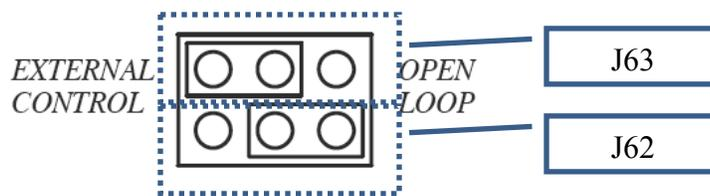

Figure 6.4: Control selection for Voltage-Mode Control plug-in board
- Set the control selection jumpers J62 and J63 as shown in Fig. 6.4.